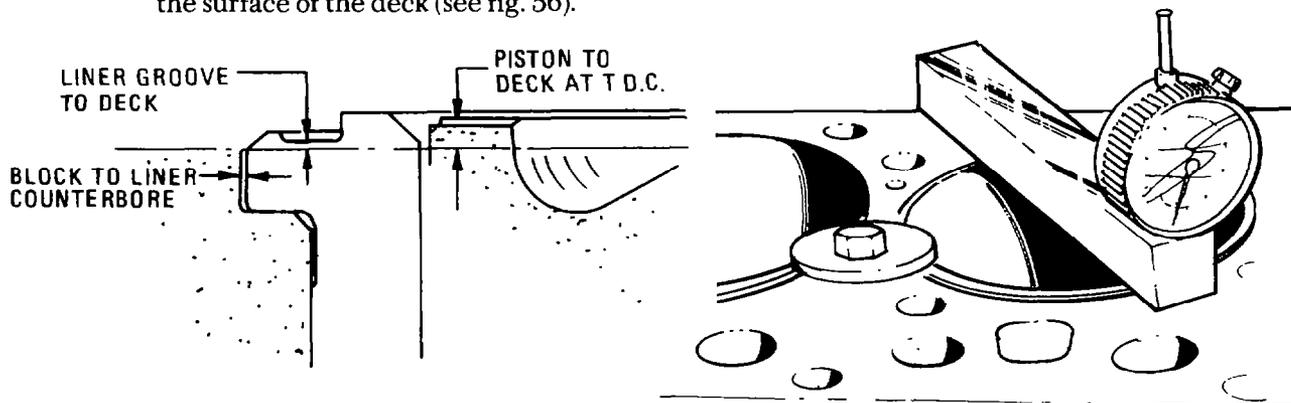

Fig. 56 — Cylinder Liner and Piston Relationship to Block
- c. Measure the liner heights to ensure that they fall within specifications (see Table 3); measurements are taken from the bottom of the fire-ring groove in the shoulder of the liner to the surface of the deck (see fig. 56).